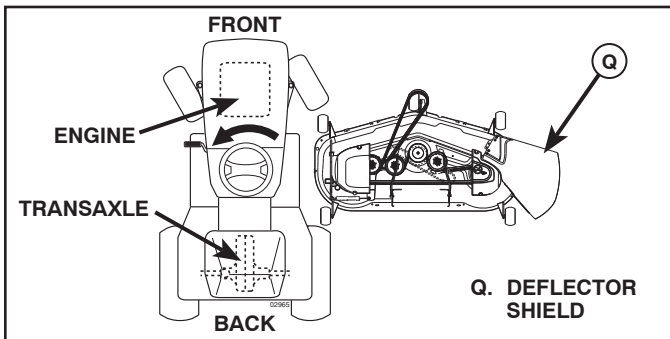

Fig. 26
3. TURN STEERING WHEEL LEFT AND POSITION MOWER (See Fig. 26)
- Turn steering wheel to the left as far as it will go and position mower on right side of tractor with deflector shield (Q) to the right.
9 INSTALL BELT ON ENGINE CLUTCH PULLEY (M) (See Fig. 26 & 34)
- Disengage belt tension rod (K) from locking bracket (L).
- Install belt onto engine clutch pulley (M).